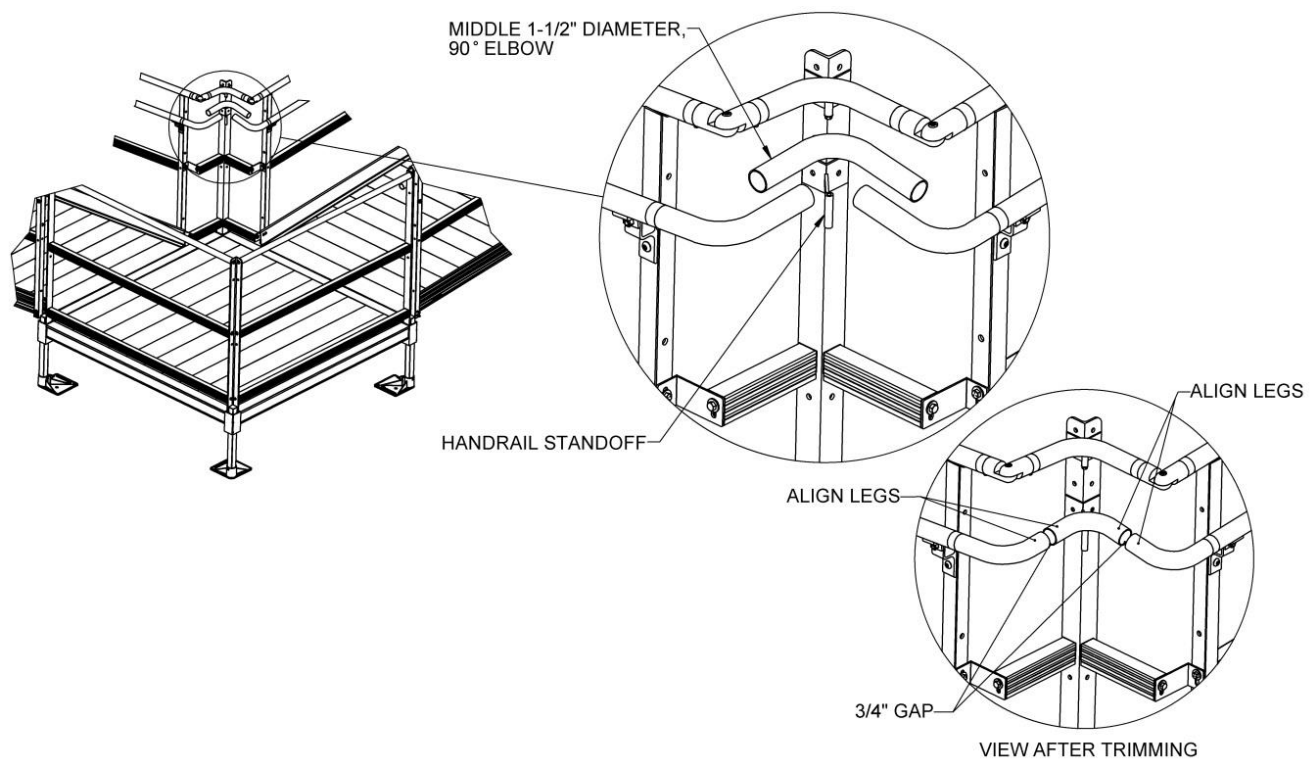

FIG. 5.42
- 5.9.14. Clamp the Handrail Standoff to the 2" x 2" angle post in the corner at 7-3/8" from the top of the post. Hold a 1-1/2" diameter, 90° elbow such that the middle of the bend is centered on top of the Handrail Standoff. Rotate the 90° elbows attached to the Ramp Handrails until they are parallel to the ends of the elbows as needed (FIG. 5.42).
- 5.9.15. Trim all three 1-1/2" diameter, 90° elbows until the legs of the elbows align and there is a 3/4" gap between the legs. Use a ring joiner centered (approximately) between the legs of the bends to assist in estimating where the cuts should be and use caution not to trim too much off any one elbow leg (FIG. 5.42).